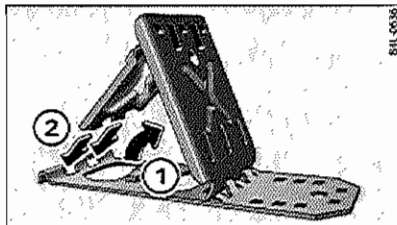

Fig. 224 Opening folding chocks
To use the chocks, you first have to raise the support plate ⇒ fig. 224 ① and then insert the locking plate with the two "tabs" into the elongated holes in the base plate ② ⇒ ⚠.